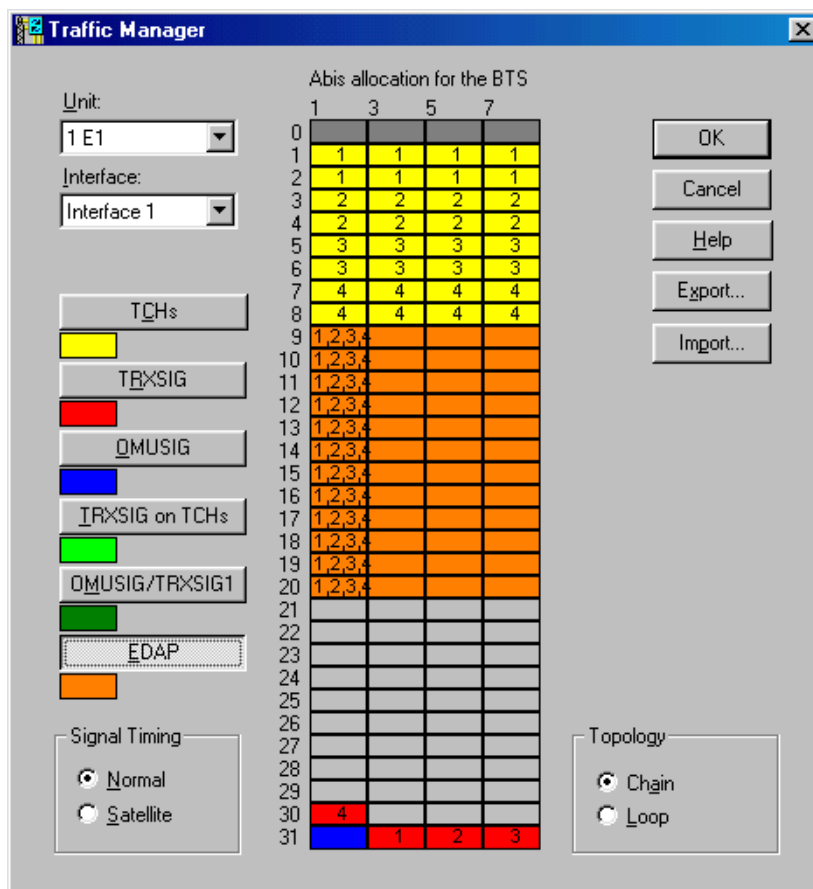

Figure 22. Example of the traffic allocation with EDAP for EDGE transmission
5. Click OK to return to the main Traffic Manager window. Figure 22 shows the resulting traffic allocation for this example.